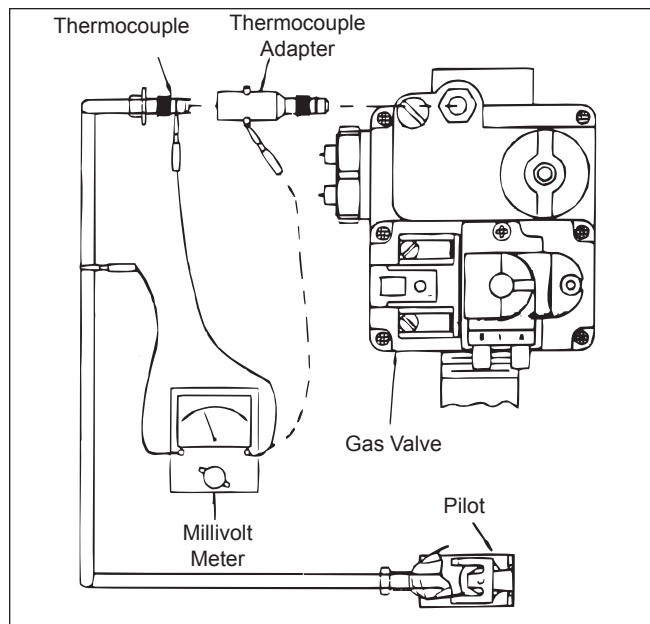

Figure 42. Testing the pilot thermocouple.
5. To test the pilot thermocouple under load, screw the pilot thermocouple into the end of a millivolt reading adapter (see Figure 42).